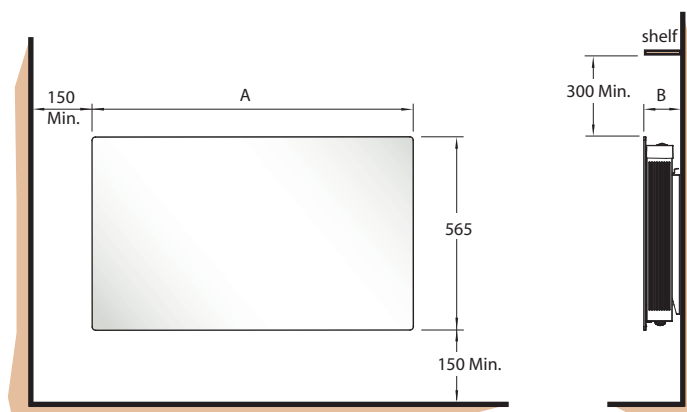

Fig. 1
The heater is designed for wall mounting on the wall bracket supplied. It should only be operated when in the upright position - see Fig. 1.
**IMPORTANT** – The wall bracket supplied with the appliance must be used. The heater should be positioned observing the minimum clearances stated around the heater - see Fig. 1.